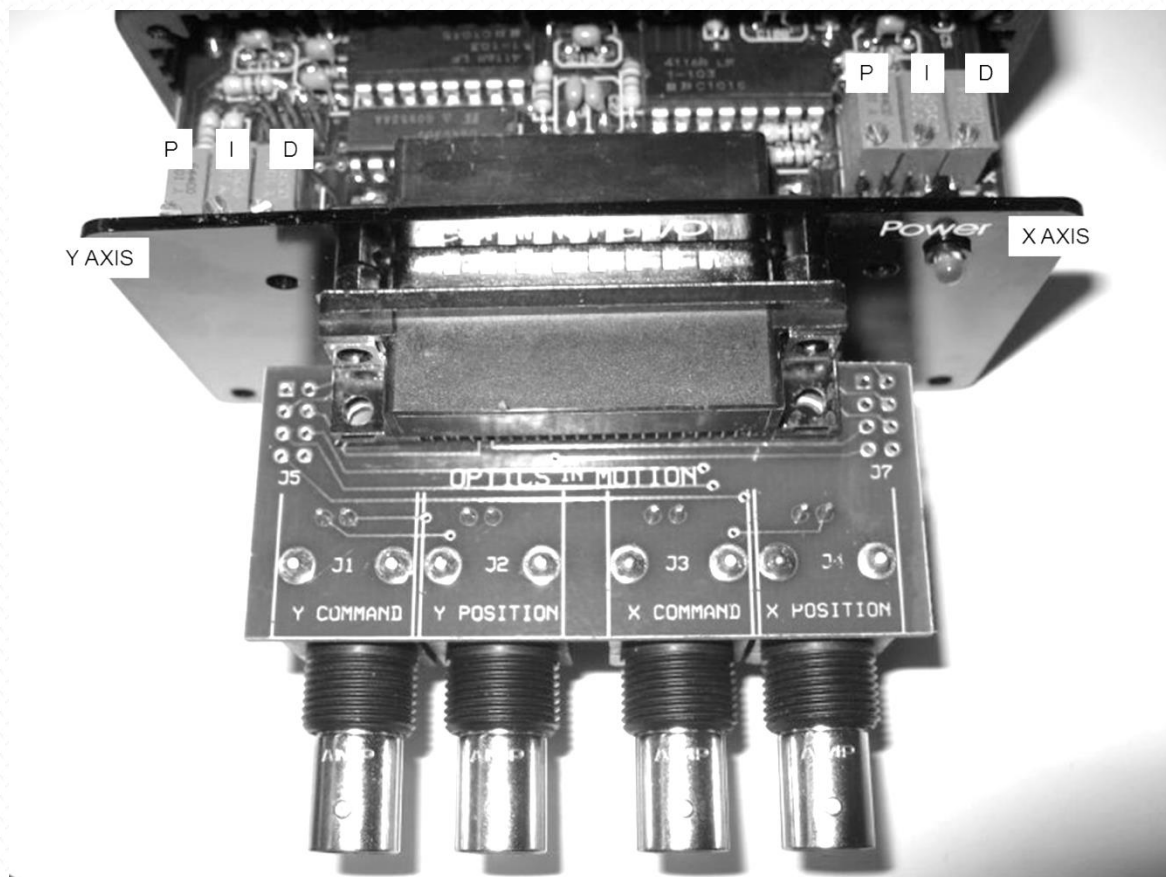

Figure 1: Adjustable PID
The mirror controller electronics are housed in a remote enclosure connected to the FSM via a 6 foot cable. Mirror commands are input to the controller through a 25 socket D sub-miniature connector. The commands are differential signals representing the x and y mirror positions, scaled to the +/- 10 volt range. For example, the X- command can be grounded and the X+ command can go from +10volts to -10volts. The input impedance of the command signals is 10K ohms. Monitor signals are provided for the actual mirror positions, error signals (feedback error between commanded position and actual position). The PID gain of the controller may be set from the controller front panel potentiometers (See fig. 1)
The mirror bandwidth and step response are factory tuned, the data sheets included with the unit show the current settings. The user can optimize the tuning for their specific application by changing these settings. The PID adjustment potentiometers are located inside the controller, to access these pots the front 4 cover screws must be removed. The photo in figure 1 shows the front panel slid forward to allow access to the proportional (P), integral (I), and derivative (D) gain potentiometers (CCW to increase gain on these pots).